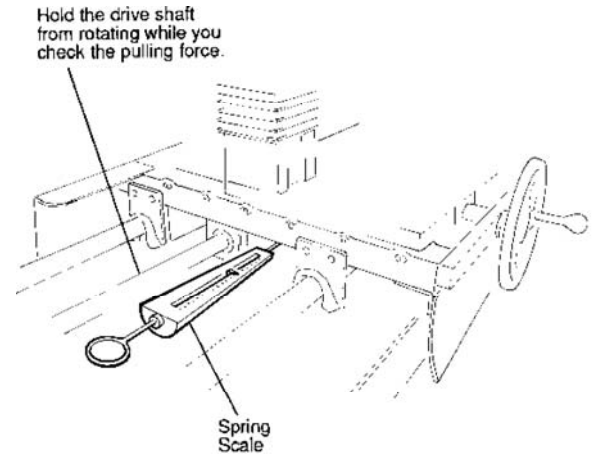

FIG. 30
10. Connect a spring scale so it pulls on the carriage parallel to the drive shaft. Hold the drive shaft from rotating while you pull on the carriage. See FIG. 30.
Check for excessive carriage-traverse load by using a spring scale to pull on the carriage parallel to the drive shaft (as in FIG. 30). There should be only about a 3- to 5- lb. pulling force.